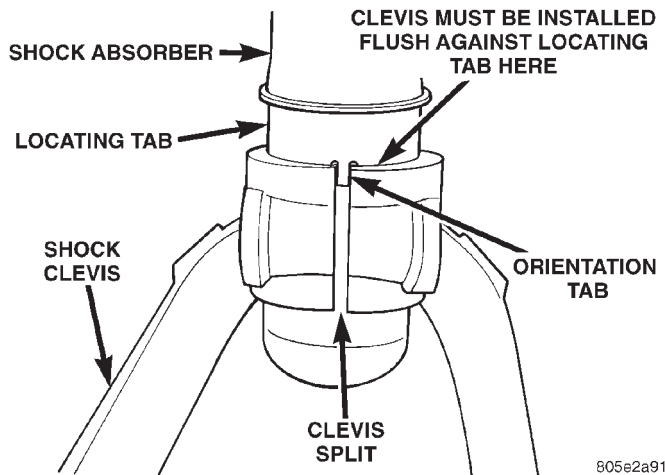

Fig. 10 Clevis Correctly Installed On Shock Absorber
(2) Install the clevis on the shock absorber. Clevis is installed by tapping it onto the fluid reservoir of the shock absorber using a soft (brass) drift until fully seated against locating tab on shock absorber (Fig. 10). Orientation tab on locating tab (Fig. 10) must be positioned in the split of the clevis.